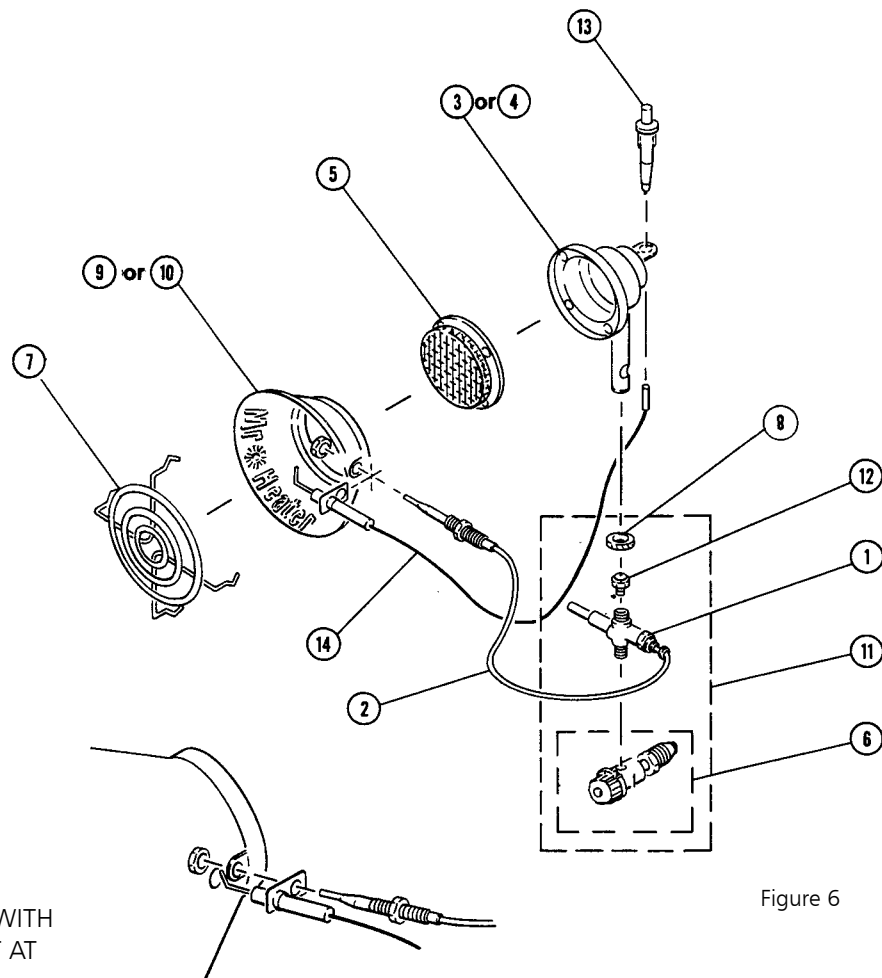

Figure 6
- E. See Figure 6 for spare parts list.